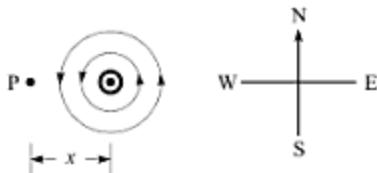

Fig. 5.19
**Solution** To make the resultant magnetic field zero, the magnetic field produced by the long vertical wire must be equal and opposite to the horizontal component of the earth's magnetic field ( $= 2.0 \text{ mT}$ ). This is possible at a point P (see Fig. 5.19) west to the wire. If  $x$  is the distance of point P from the wire, we have (from Eq. 5.1)